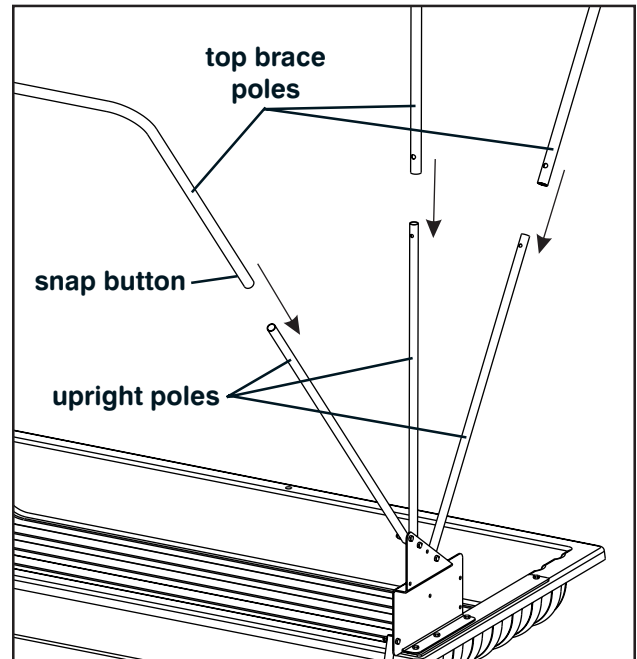

Figure 2
2. Insert (3) upright poles (69652) from each side into the (3) top brace poles (69616). Slide poles in, to their shortest height. See Figure 2.